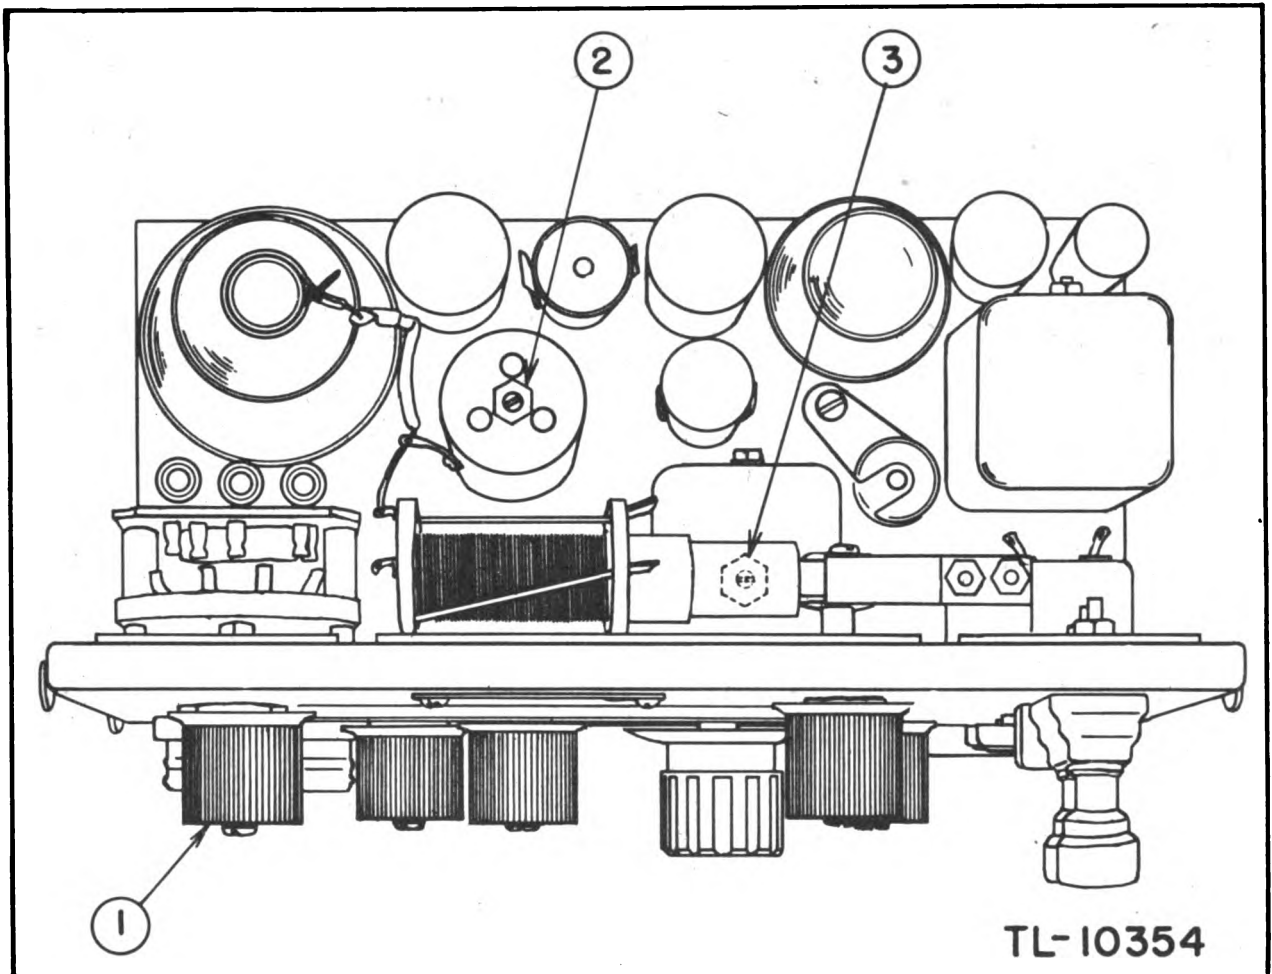

Figure 63—Alignment Data, Transmitter
k. Adjust the buffer-plate trimmer for maximum output indication on the meter (Fig. 63).